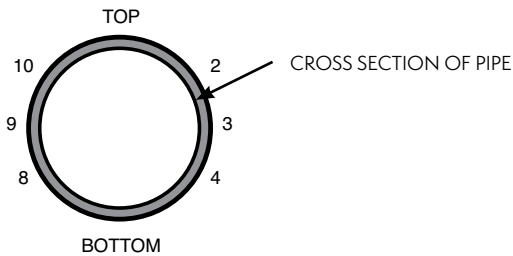

Figure 13 – Pipe Taps Shall be Between 2-4, or 8-10. Not on Top or Bottom of a Pipe.
- 2.2 Before uncrating, assembly, and installation of the Smart Shield® system, consider the location of the recirculating water’s (2) supply and (2) return taps in the system piping headers. Each header tap should include an isolation valve at the header and be installed on the side of the pipe (see Figure 13). Consider sanitary drain location. Drain piping should provide for gravity flow. Also consider install location for both the **MRF** and **BCF-OX** systems, as motorized valves on the **BCF-OX** are field wired into the controller located on the **MRF** system. The **MRF** system may be located against a wall or in a corner of the mechanical room. Allow sufficient space for supply, return, and drain piping (minimum of 24" [610 mm]). Allow a minimum of 30" (760 mm) unobstructed space in front and to one side of the **MRF** system for routine servicing. Allow a minimum of 36" (915 mm) unobstructed space above feeders for routine servicing. See Figures 1 and 2.
- 3.1.3 Each header tap shall include an isolation valve at the header, supplied by others. See Figure 13 for recommended pipe tap locations.
The **BCF-OX** module is installed in conjunction with the **MRF** system in a mechanical room, as described in Section 3.0. Before installation, consider the location of the recirculating water’s supply and return taps in the system piping headers. Each header tap should include an isolation valve at the header and be installed on the side of the pipe (see Figure 13). Also consider sanitary drain location. Drain piping should provide for gravity flow. The **BCF-OX** module may be located against a wall or in a corner on the floor of the mechanical room. Allow sufficient space for supply, return, and drain piping. Allow a minimum of 30” (760 mm) unobstructed space in front and to one side of the skid for routine servicing. Allow a minimum of 36” (915 mm) unobstructed space above feeders for routine servicing. See Figures 23 and 24. General installation piping arrangements are shown in Section 3.2. For special installations not covered in this manual, please consult your EVAPCO Representative or Authorized Water Systems Service Provider. General **BCF-OX** installation requirements are listed below.